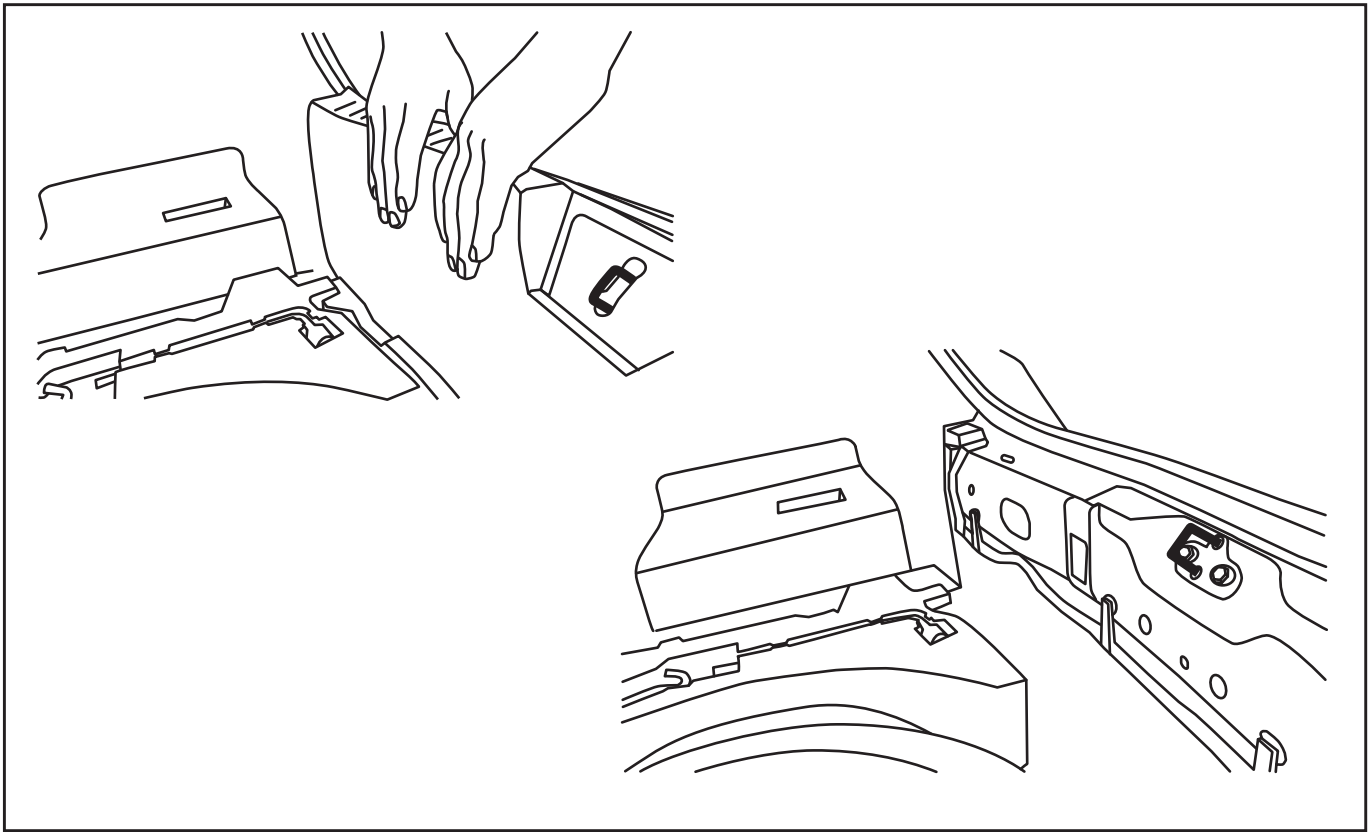

Fig. 6
8. Remove push-rivets again and remove rear trunk panel – it should easily snap out (Fig. 6).